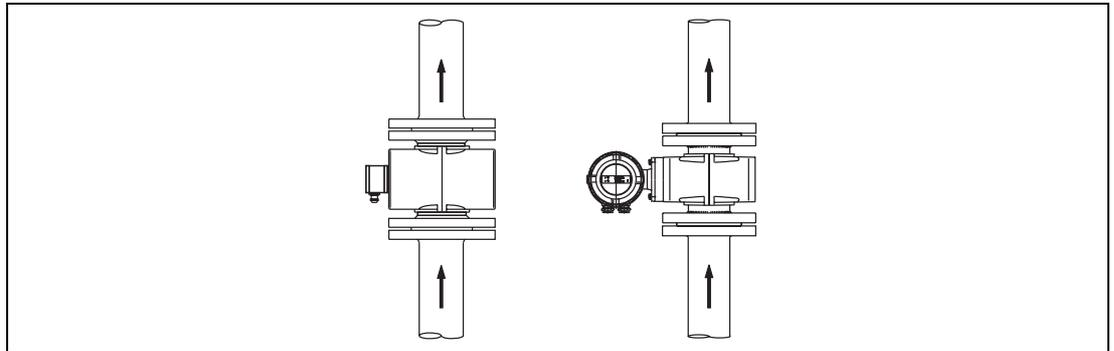

Fig. 7: Installation in Vertical Pipeline
- Vertical Installations when abrasion may be present, flowrate upward, max. 3 m/s (Fig. 7)